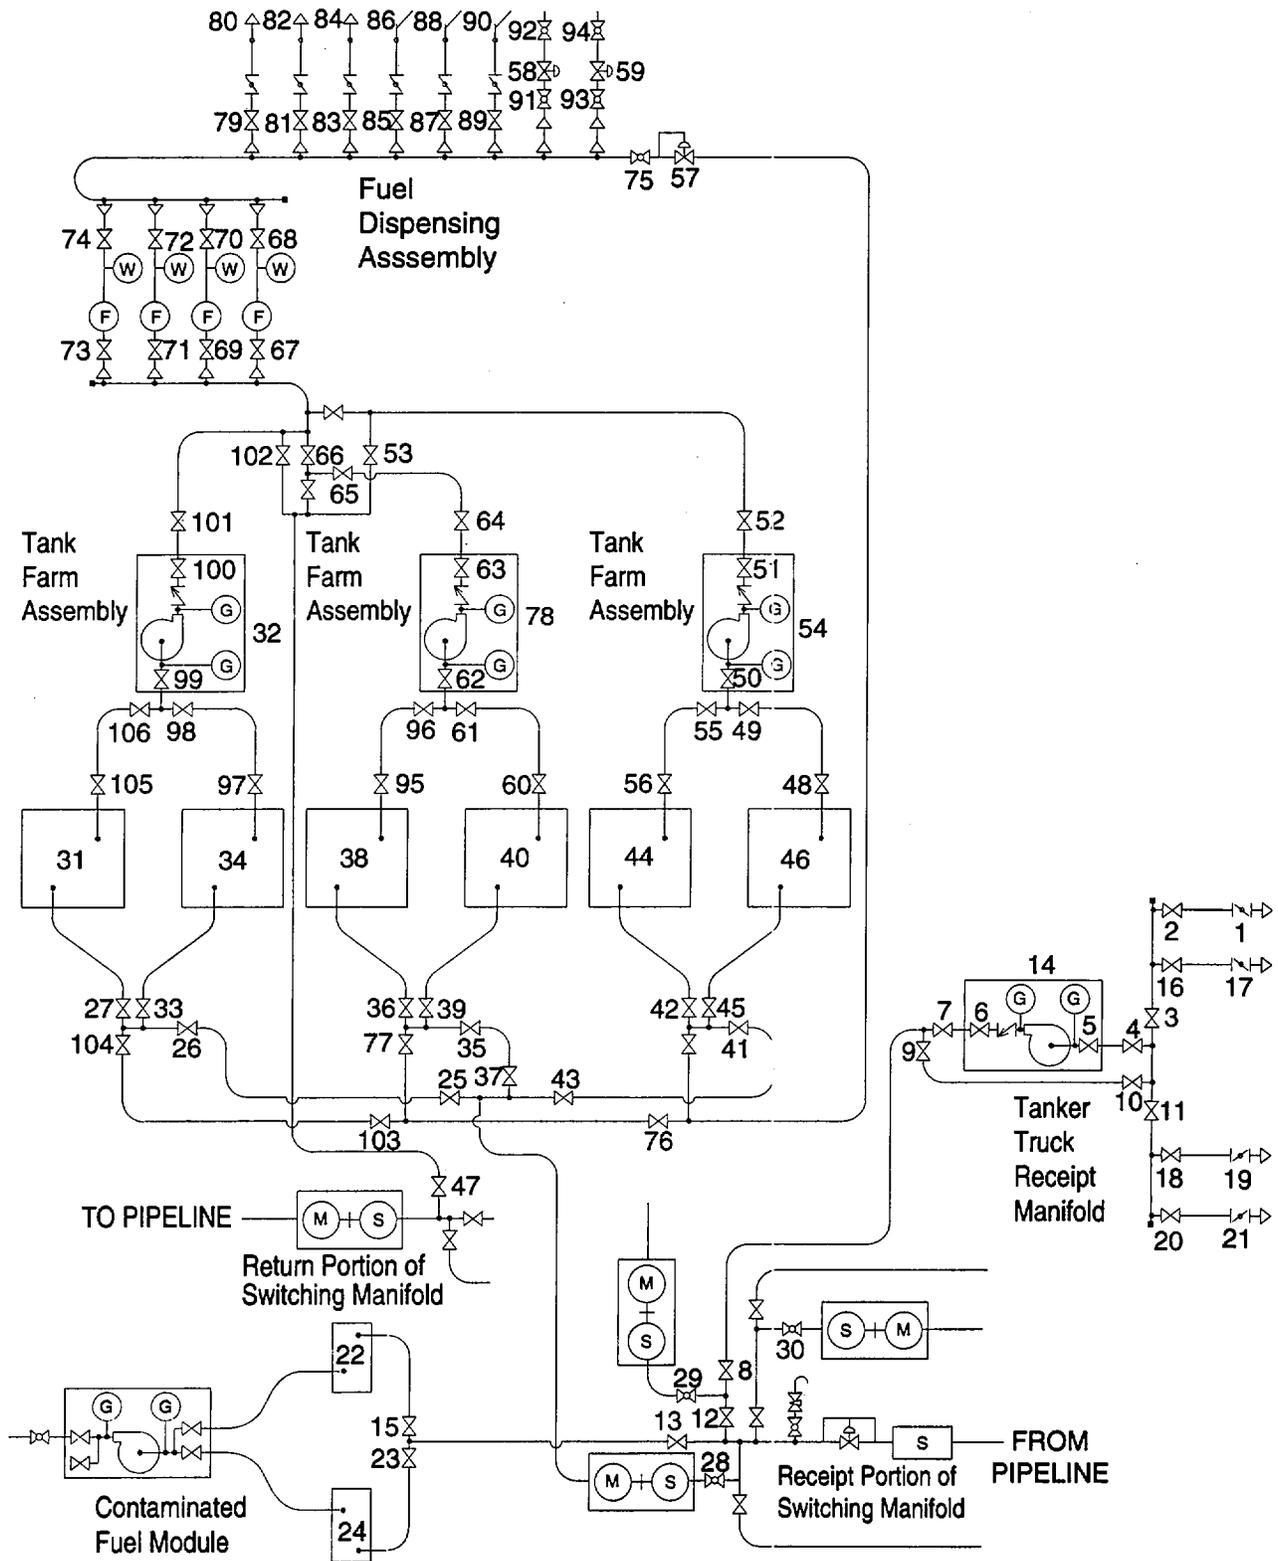

Figure 2-24. Commissioning Schematic
- (8) When the TPT is to be used for multiple fuels, purge and fill each fuel unit individually to avoid any cross contamination.
- (9) Purge and fill fuel unit as follows. (See figure 2-24.)